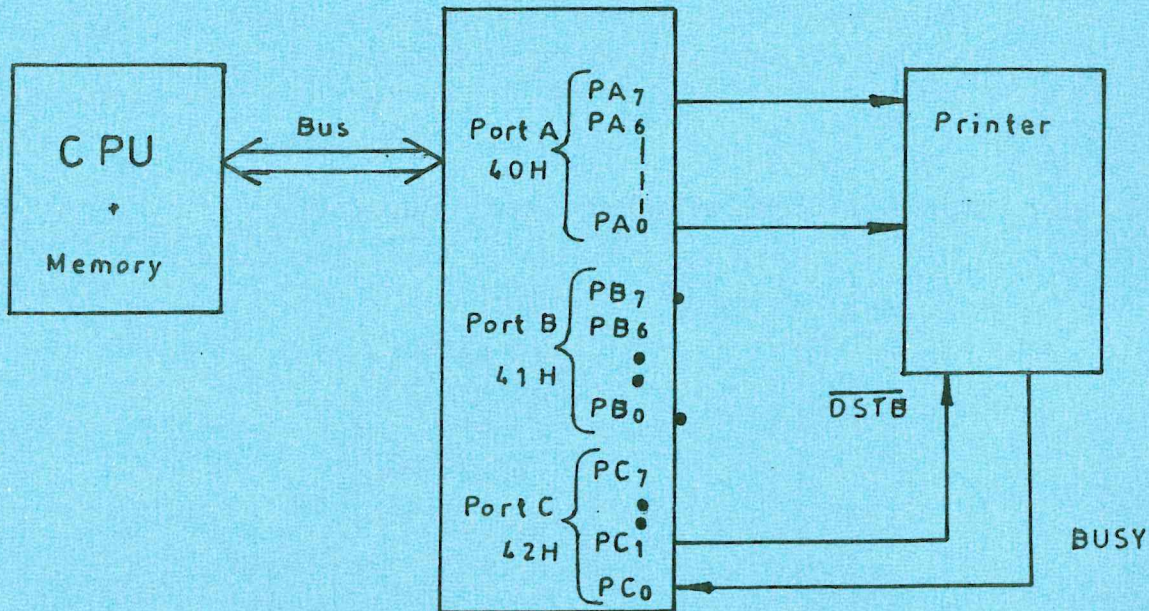

Fig. 2
- (b) Figure 2 shows a block diagram of a printer connected via a parallel interface to a microprocessor using two 8-bit ports. Port A address is 40 H, port B address is 41H and port C address is 42H.